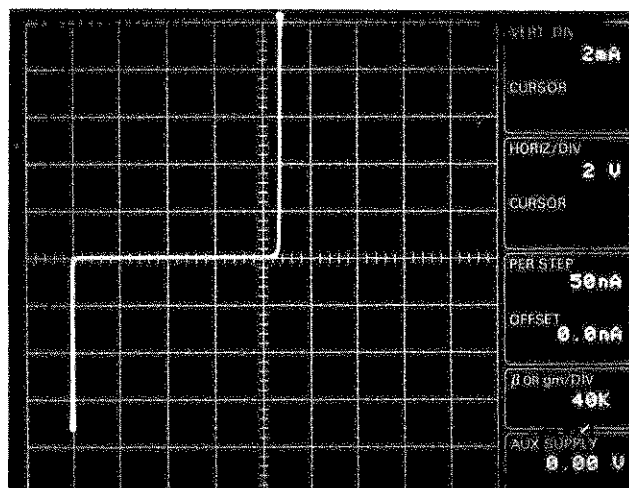

Figure 3-8. Display of Zener diode I vs. E characteristic.
34. Set the LEFT-RIGHT-STANDBY control to RIGHT and turn the COLLECTOR SUPPLY VARIABLE control clockwise. Note that the display shows both the forward and reverse characteristics of the Zener diode (see Figure 3-8).
35. Set the DISPLAY MAG MODE control to X1 HORIZ and press MAG OFFSET INCR until the Zener breakdown portion of the display is within 0.5 division of the center vertical line. Multiply the divisions of offset (4) by the HORIZ/DIV readout (2 V) to calculate the approximate breakdown voltage of the Zener diode. For the diode in the example shown in Figure 3-8, the approximate Zener breakdown voltage is 4 div times 2 V/div = 8 volts.